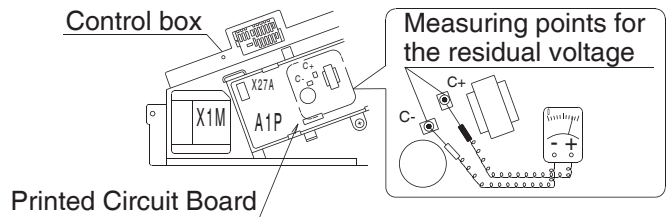

Fig. 1
- After opening the control box lid, measure residual voltage between the points shown **Fig. 1** on the Printed Circuit Board by the tester without